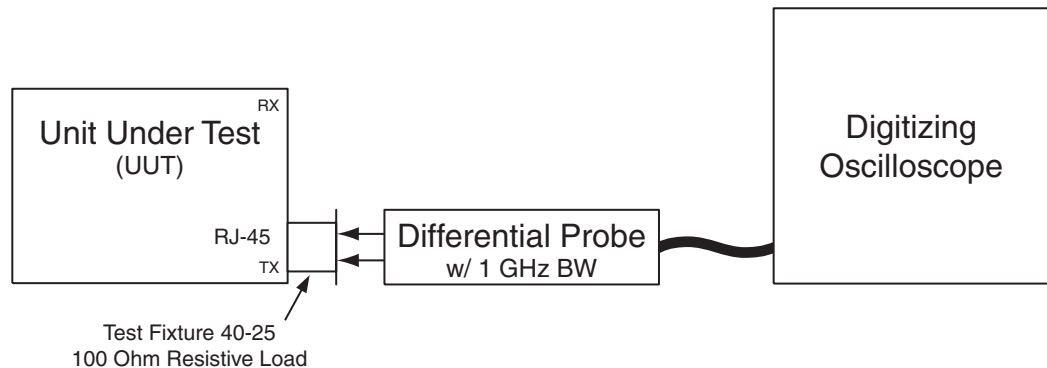

Figure 22-1. Test Setup for 10Base-T Transmitter Output Timing Jitter without Cable Model
1. Insert CAT 5 cable into UUT and attach differential probe to the test load as shown in Figure 22-1.